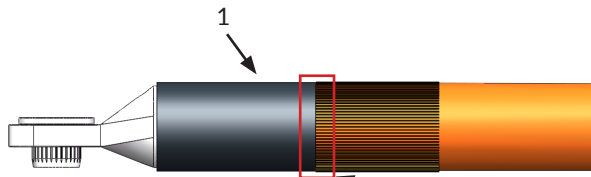

Figure 5.1
Step 5: Assemble the shrink tube (Figure 5.1&5.2)